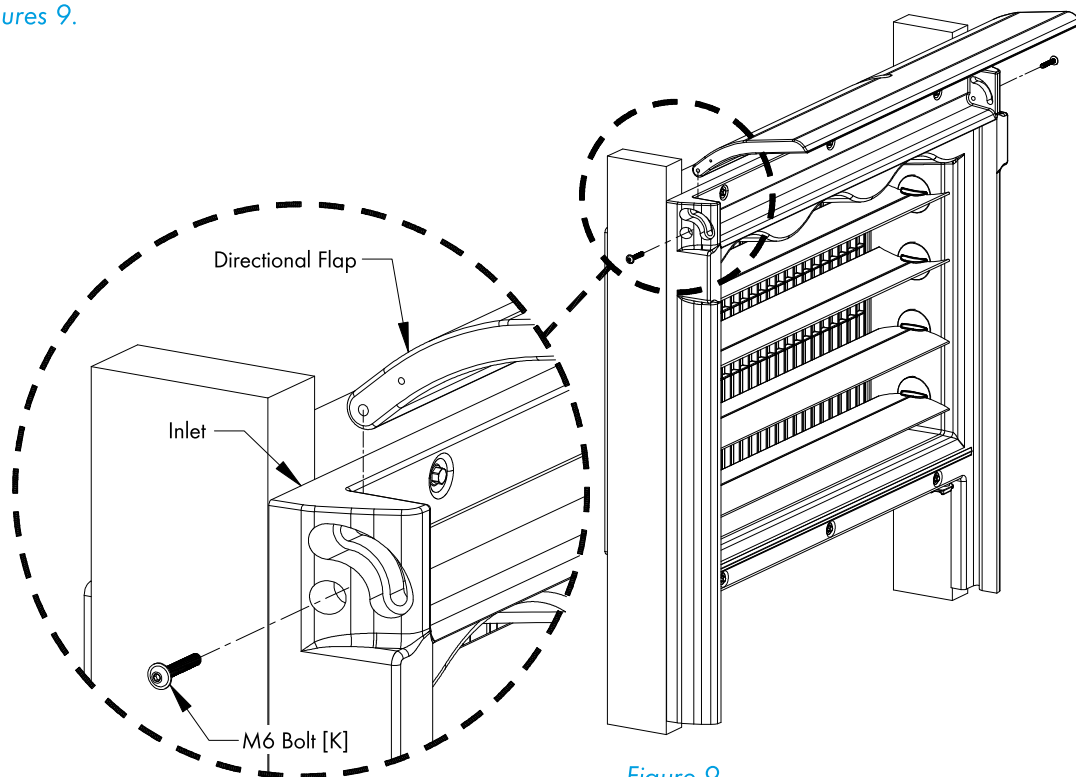

Figure 9
Slide Directional Flap into Inlet at top between sides and fasten in place using (2) M6 Bolts [K]. See Figures 9.